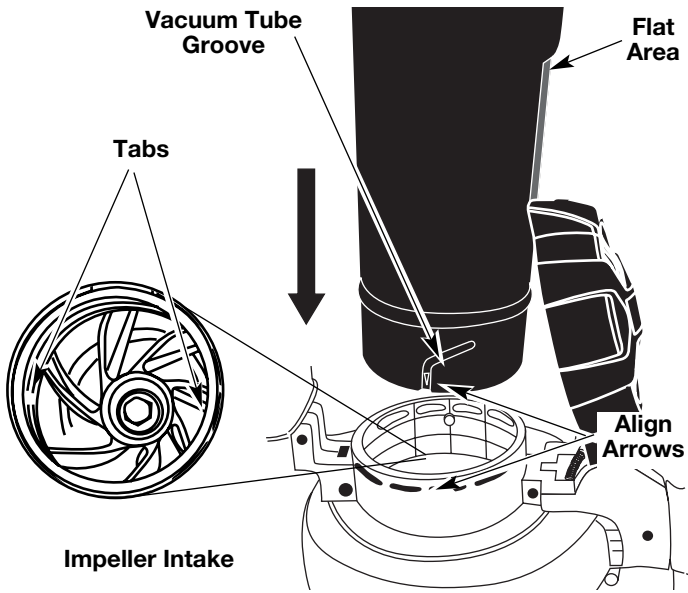

Fig. 5
5. While holding the vacuum door open, insert the assembled vacuum tube (put together in Step 2). Arrange the tube so the flat area faces the vacuum door. The grooves on the side of the tube will line up with the small tabs in the impeller intake (Fig. 5). From the exterior, align the small arrow on the vacuum tube with the arrow on the impeller intake.